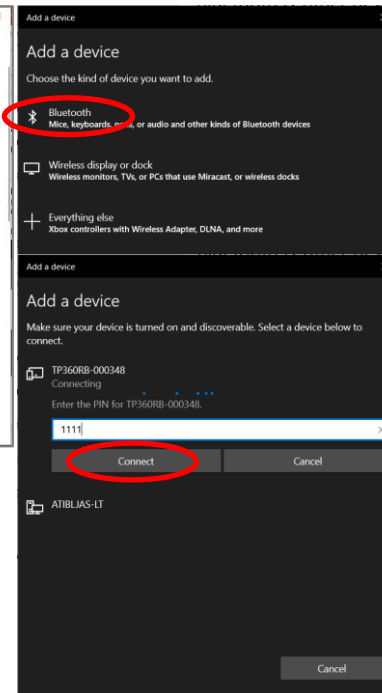

Figure 3
3. Tap **Bluetooth** to begin the search. Make sure your Laser BT is ON and when it's discovered, select it from the list. Key in the PIN and tap **Connect** (Figure 3)